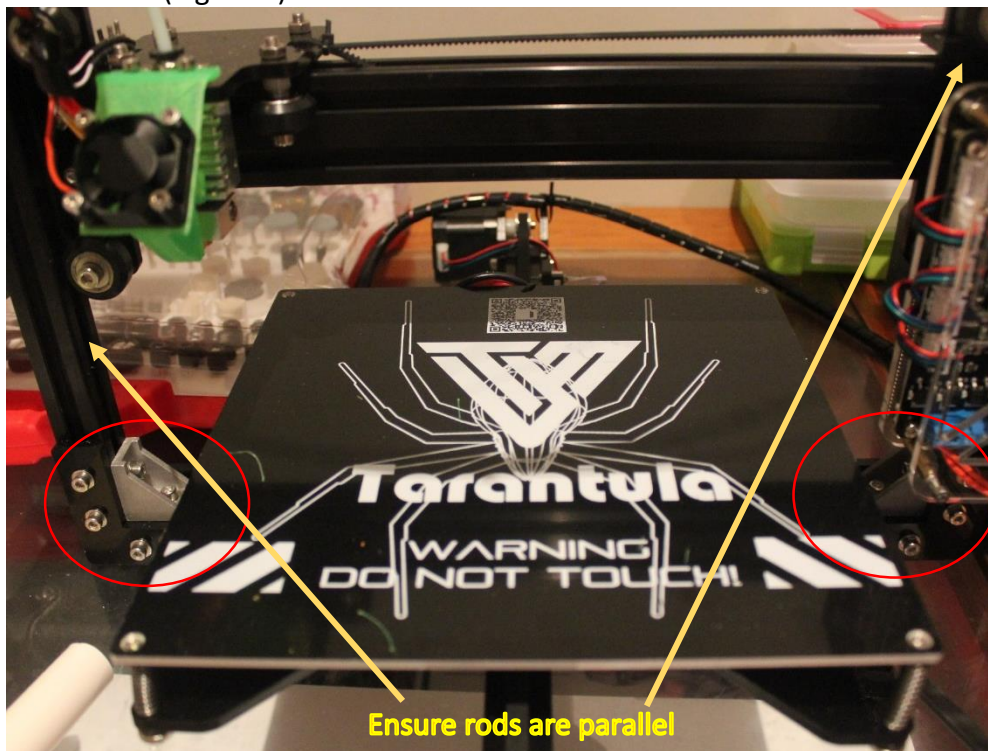

Figure 4
5. There are two L-shaped supports that are positioned at the bottom two corners of the chassis. (Figure 4)
7. Before the x-axis goes on, it is very important that the two rails perpendicular to the base are parallel with each other and they are rigid. Use a square ruler or any other tool to ensure that they are perpendicular. (Figure 4)